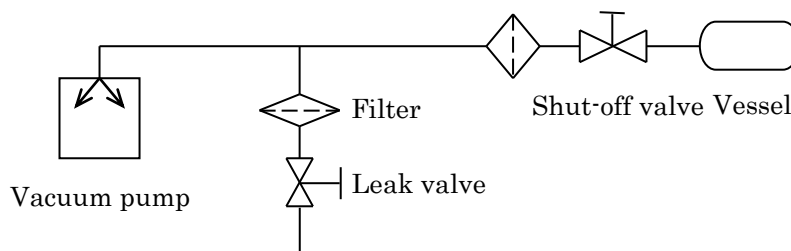

Fig.3.1 Example of Piping Used When Evacuating a Vessel
- 5) When evacuating a vessel, ensure that a shut-off valve is placed between the pump inlet pipe and the vessel (see Fig.3.1).